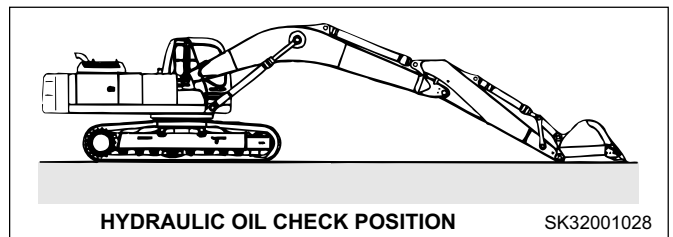

FIGURE 4.48A
1. Move the machine to a firm, level surface with the attachment in the hydraulic oil check position. See Figure 4.48A. Make sure the attachments are resting on the ground.